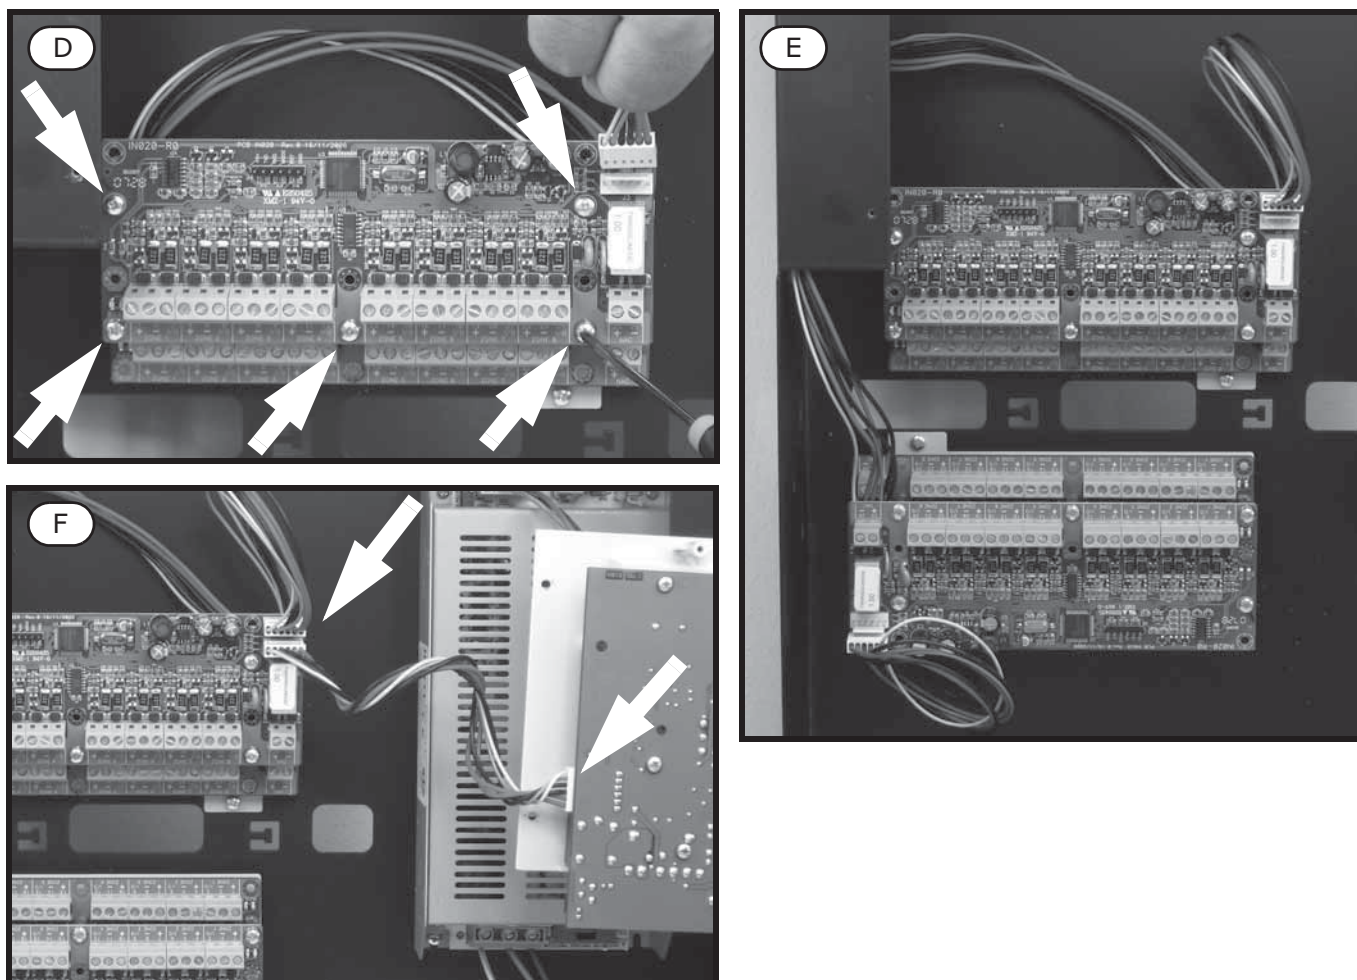

Figure 10 - Mounting the expansion module - 2
6. Locate the second zone expansion board on the metal spacers (*Figure 10 - [D]*).
10. Connect the third to the second board (*Figure 10 - [E]*).
11. Connect the wire coming from the first zone expansion board to the SmartLine motherboard (*Figure 10 - [F]*).